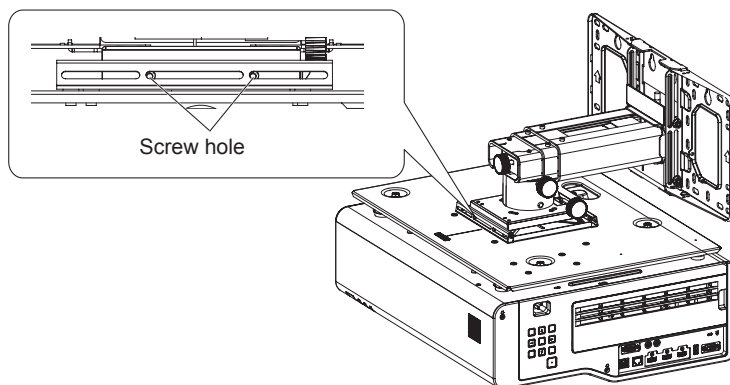

Fig.3
- Adjust the position of projector mount bracket kit so that the two screw holes on the adjustable unit are located at the left end of the long holes on the connecting plate. (Fig.3)